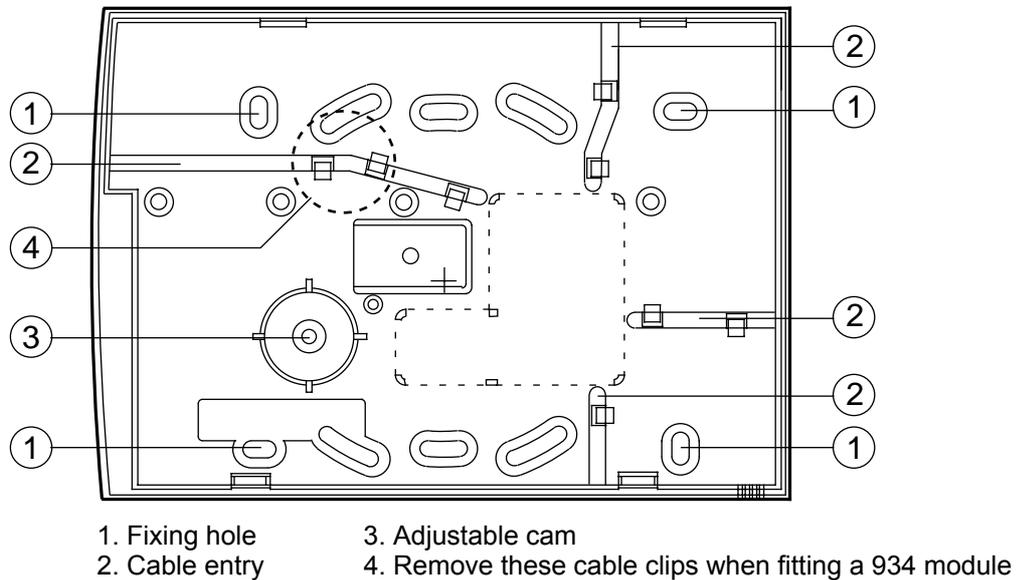

Figure 10. Backplate of the 9930 Keypad
The backplate of the 9930 keypad (see Figure 10) contains an adjustable cam that you can use to make sure the tamper switch will operate correctly when the keypad is mounted on an uneven surface.
1. Select which cable entry you are going to use and break out the appropriate plastic sections (item 2 on Figure 10).
2. Hold the backplate in place against the wall and mark the position of the centre hole in the adjustable cam (item 3 in Figure 10).
4. Make sure the backplate is level. Mark, drill and plug at least two more fixing holes (item 1 in Figure 10). Screw the backplate to the wall through the holes.
1. Remove the front cover from the keypad(s) to which you intend to fit the module. Remove the cable clips (item 4 in Figure 10).